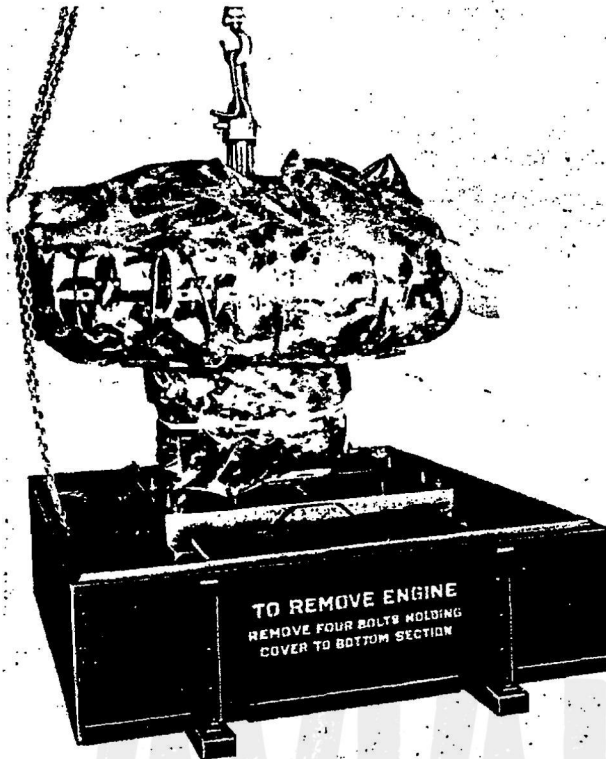

Figure 27—Removing Engine from Shipping Box
(7) Remove the thread protecting cap and turning bar and install the engine hoisting eye. Attach the hoist to the eye.
(8) Remove the nuts which secure the mounting plate to the cradle.
(9) Raise the engine and mounting plate from the shipping box. See figure 27.